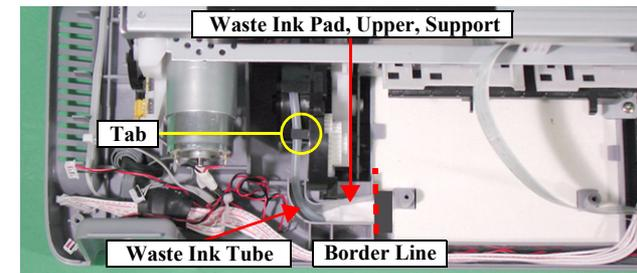

Figure 2-38. Waste Ink Tube Installation
- When installing the Printer Mechanism to the Housing, Lower, run the Waste Ink tube downward of the tab as shown in Figure2-38 and securely set in the groove of the Housing, Lower. Then, make sure that the Waste Ink Pads, Upper, Support is fitted securely without lifting above the tube upper surface. Also, the Waste Ink Pad, Upper, Support has to be installed along the border line as shown in Figure2-38. Incorrect installation of the Waste Ink Tube may cause the ink leakage.